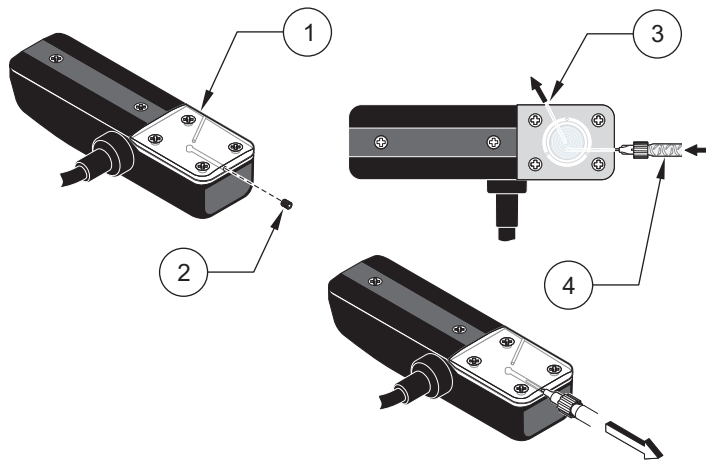

Figure 18 Oil Replenishment
7. Insert the syringe tip slowly into the set screw hole and dispense the oil (Figure 18 on page 37). While dispensing the oil, hold the probe at an angle to allow the air to be pushed out the side port (Figure 18 on page 37). Continue to dispense the oil until all the air bubbles are removed.